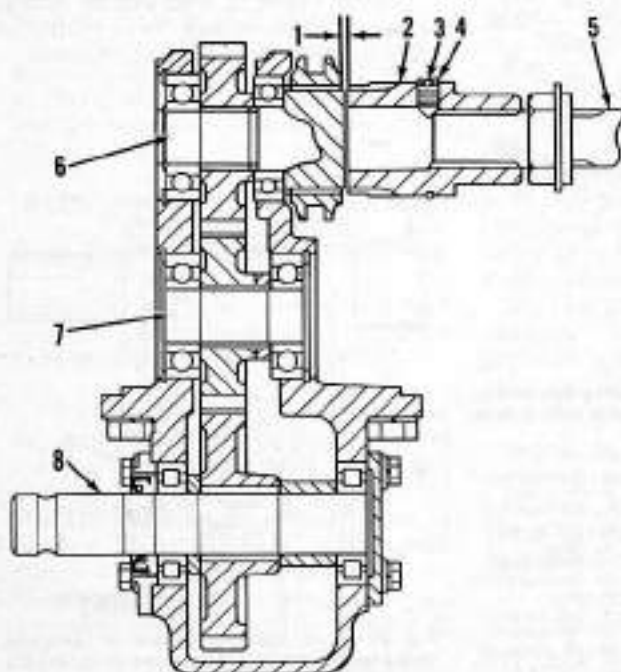

Fig. 32—Cross-sectional view of transfer gear box used on models equipped with Carraro front drive axles.
**42. TRANSMISSION DRIVE COUPLING ADJUSTMENT.** Remove transmission top cover, wedge and shims and measure clearance between transfer gear box drive shaft (6—Fig. 32) and transmission drive coupler (2). If clearance exceeds 0.3048 mm (0.012 inch) remove snap ring (3) and turn adjusting screw (4) until clearance is between 0.000-0.3048 mm (0.012 inch) measured at gap between coupler (2) and shaft (6). See 1—Fig. 32.
Reinstall snap ring (3—Fig. 32) over adjusting screw (4) and install transmission top cover.